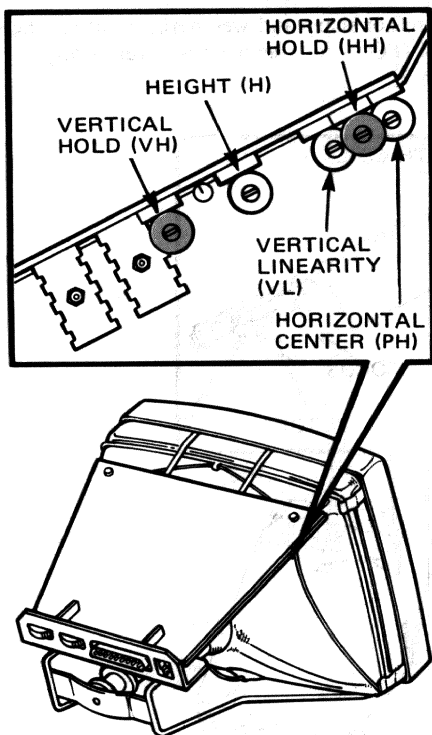

Figure 4-6 Vertical and Horizontal Hold Controls
2. If needed, adjust the vertical hold (VH) control (Figure 4-6) to stop any vertical movement.
2. If needed, adjust the horizontal hold (HH) control (Figure 4-6) to stop any horizontal movement.